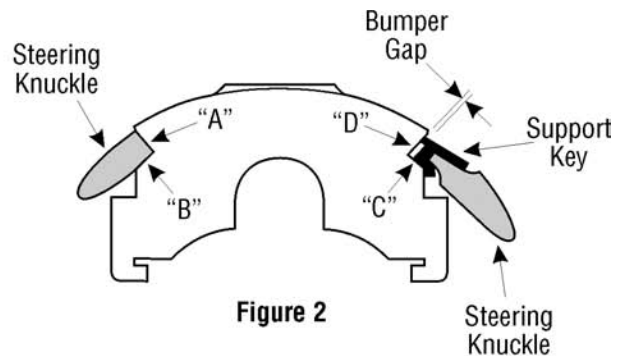

Figure 2
2. Reinstall caliper (new or existing) back into knuckle. Install a NEW standard size key and retaining screw. DO NOT INSTALL SUPPORT SPRING AT THIS TIME. (see figure 2)
3. Insert a screwdriver into center of key bumper gap and pry firmly to seat caliper to three slide surfaces — "A", "B", and "C". (see figure 2)
4. Measure bumper gap with largest feeler gauge (or stack of gauges) that will fit into the gap for its FULL LENGTH. (see figure 2)